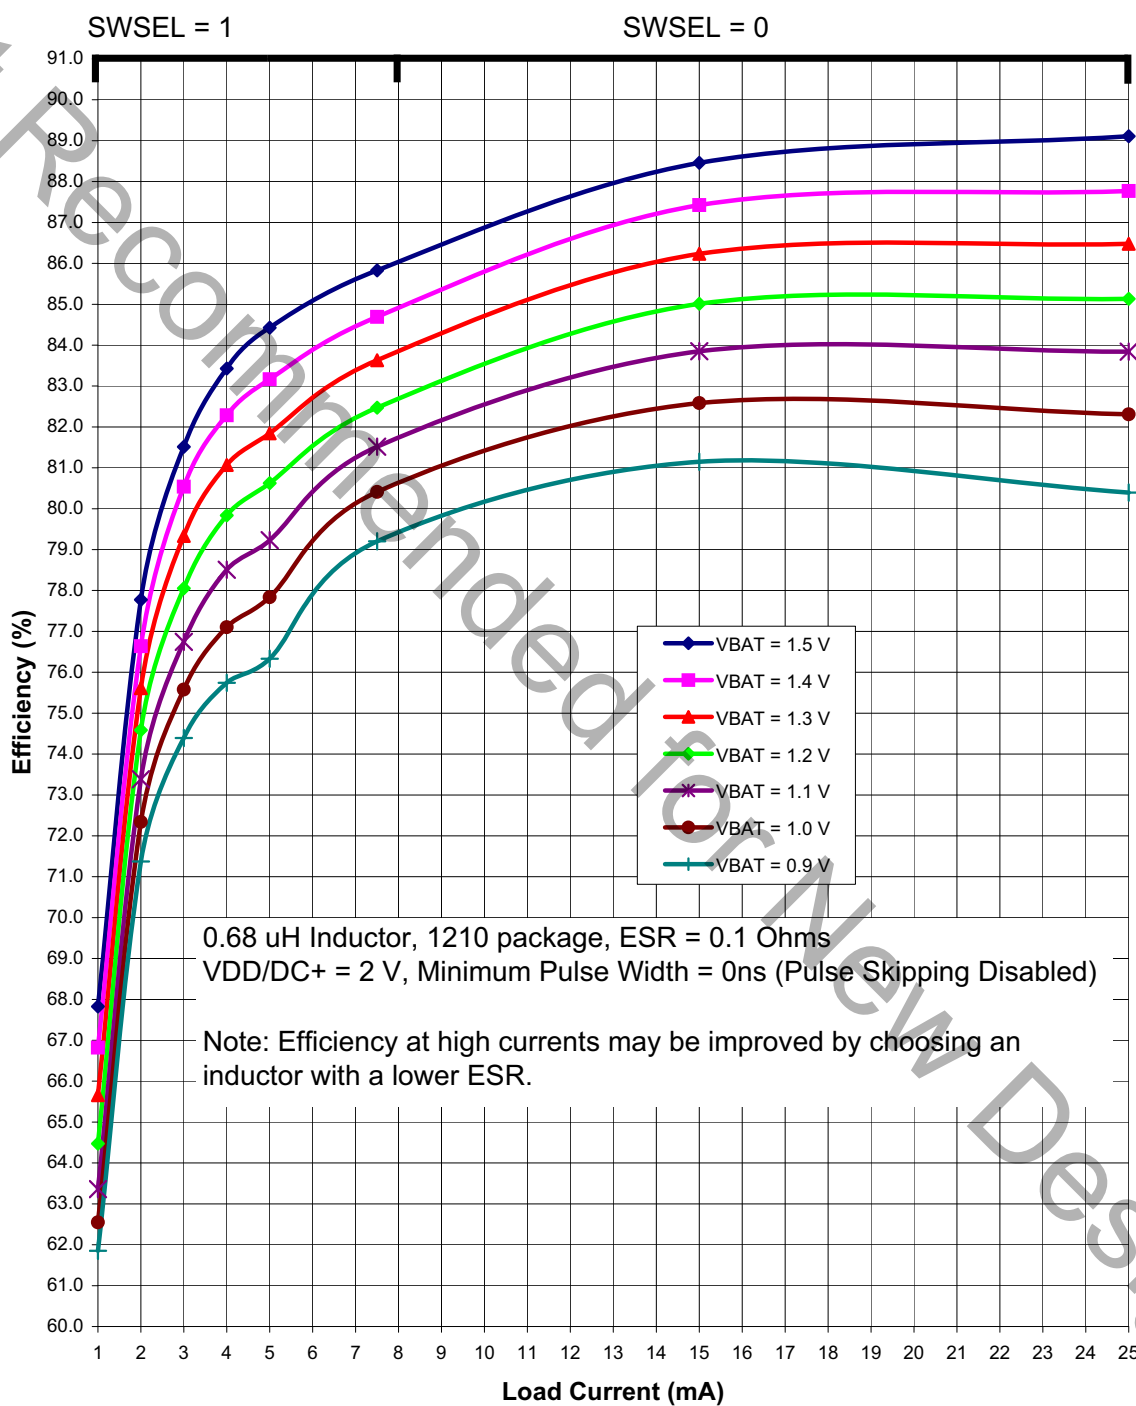
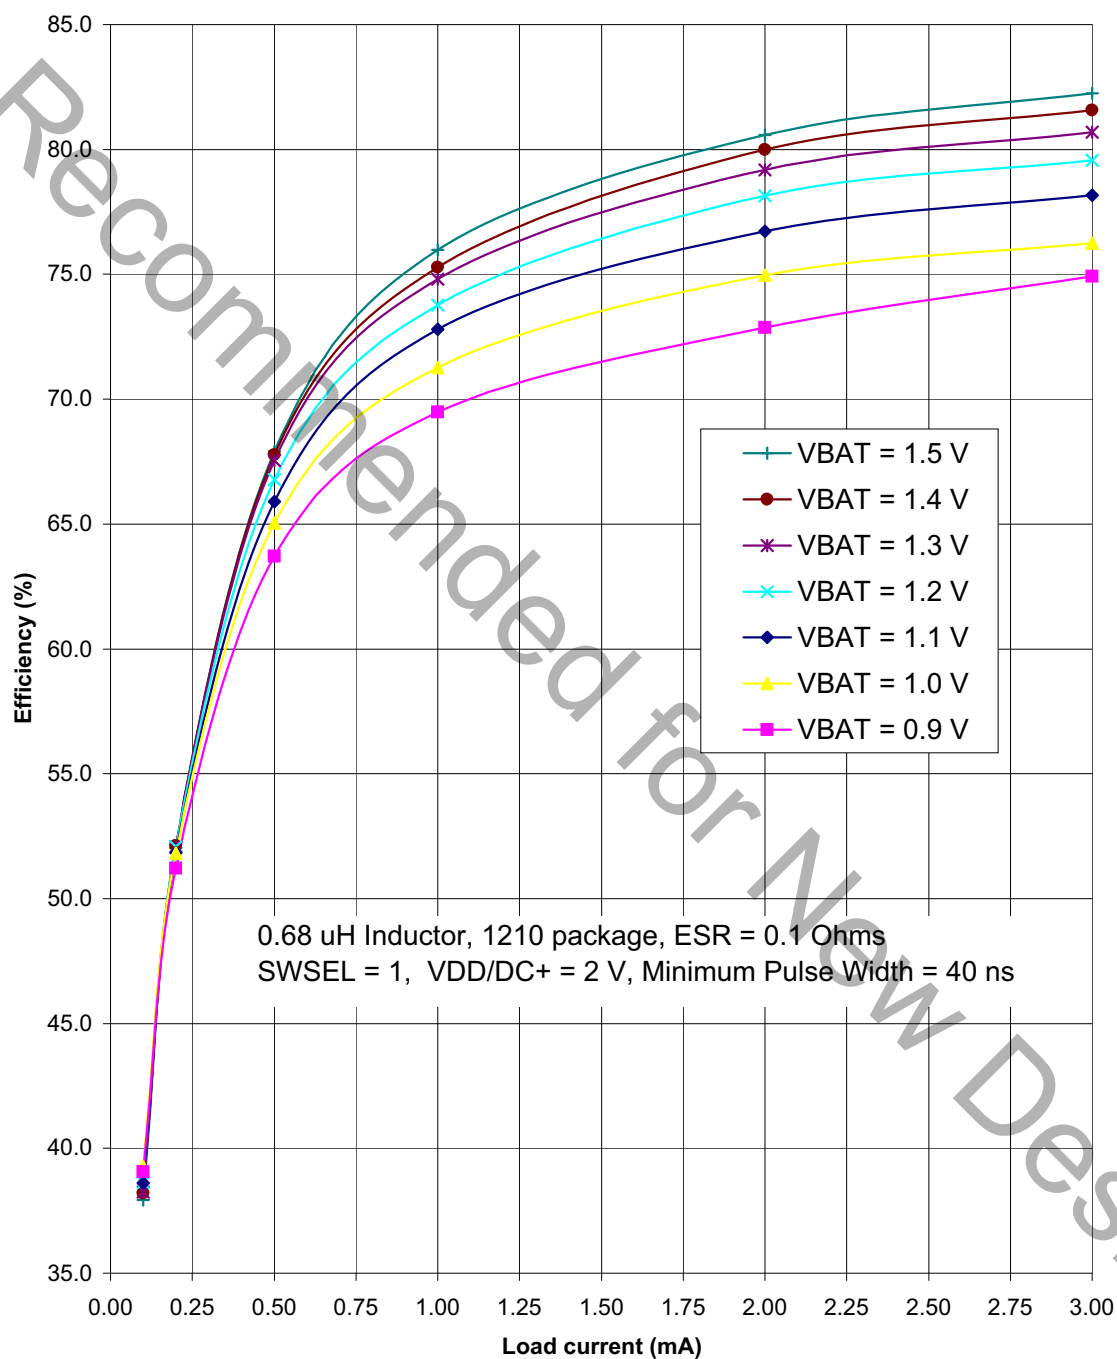

Figure 4.3. Typical DC-DC Converter Efficiency (High Current, VDD/DC+ = 2 V)
Figure 4.5. Typical DC-DC Converter Efficiency (Low Current, VDD/DC+ = 2 V)
<p>Notes:</p> <ol style="list-style-type: none"> 1. Based on device characterization data; Not production tested. 2. SYSCLK must be at least 32 kHz to enable debugging. 3. Digital Supply Current depends upon the particular code being executed. The values in this table are obtained with the CPU executing an "sjmp \$" loop, which is the compiled form of a while(1) loop in C. One iteration requires 3 CPU clock cycles, and the flash memory is read on each cycle. The supply current will vary slightly based on the physical location of the sjmp instruction and the number of flash address lines that toggle as a result. In the worst case, current can increase by up to 30% if the sjmp loop straddles a 128-byte flash address boundary (e.g., 0x007F to 0x0080). Real-world code with larger loops and longer linear sequences will have few transitions across the 128-byte address boundaries. 4. Includes oscillator and regulator supply current. 5. IDD can be estimated for frequencies ≤10 MHz by simply multiplying the frequency of interest by the frequency sensitivity number for that range, then adding an offset of 90 µA. When using these numbers to estimate IDD for >10 MHz, the estimate should be the current at 25 MHz minus the difference in current indicated by the frequency sensitivity number. For example: VDD = 3.0 V; F = 20 MHz, IDD = 4.1 mA – (25 MHz – 20 MHz) x 0.120 mA/MHz = 3.5 mA. 6. The Supply Voltage is the voltage at the VDD_MCU pin, typically 1.8 to 3.6 V (default = 1.9 V). Idle IDD can be estimated by taking the current at 25 MHz minus the difference in current indicated by the frequency sensitivity number. For example: VDD = 3.0 V; F = 5 MHz, Idle IDD = 2.5 mA – (25 MHz – 5 MHz) x 0.095 mA/MHz = 0.6 mA. 7. The supply current specifications in Table 4.2 are for two cell mode. The VBAT current in one-cell mode can be estimated using the following equation: $\text{VBAT Current (one-cell mode)} = \frac{\text{Supply Voltage} \times \text{Supply Current (two-cell mode)}}{\text{DC-DC Converter Efficiency} \times \text{VBAT Voltage}}$ <p>The VBAT Voltage is the voltage at the VBAT pin, typically 0.9 to 1.8 V. The Supply Current (two-cell mode) is the data sheet specification for supply current. The Supply Voltage is the voltage at the VDD/DC+ pin, typically 1.8 to 3.3 V (default = 1.9 V). The DC-DC Converter Efficiency can be estimated using Figure 4.3–Figure 4.5.</p> 8. The EZRadioPRO peripheral is placed in Shutdown mode.